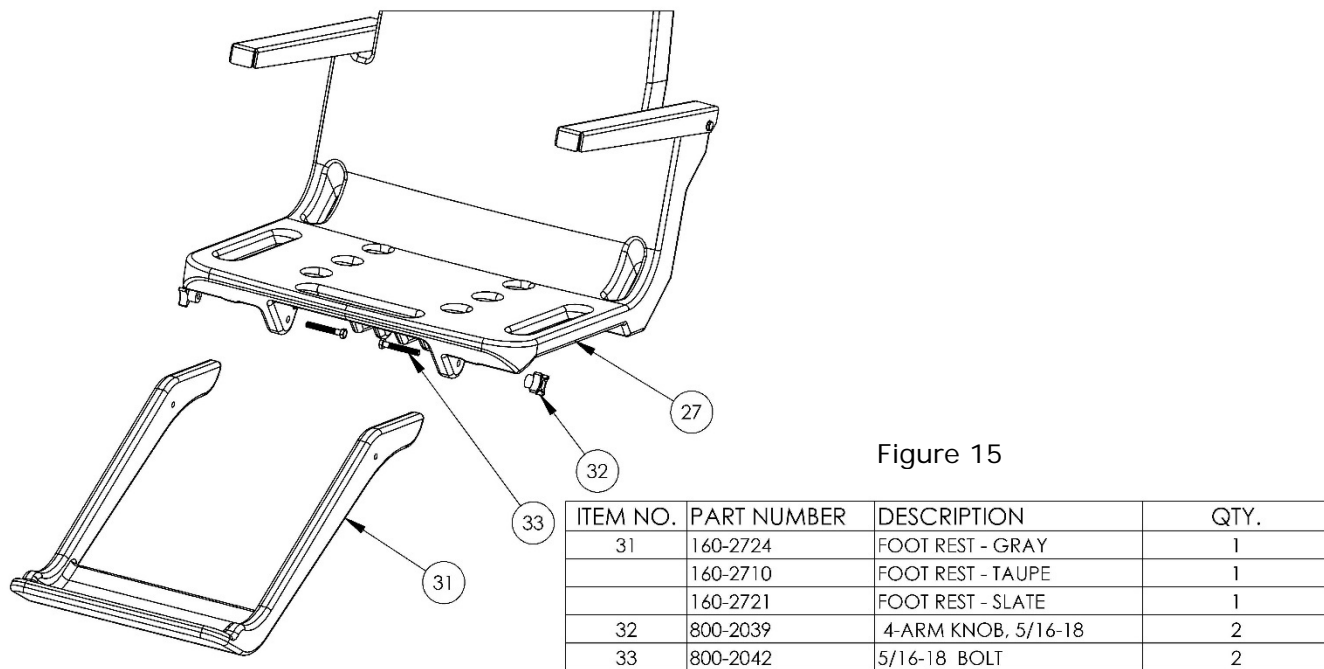

Figure 15
21. Attach the Footrest to the Seat using (2) bolts and (2) 4-arm knobs through holes on bottom of Seat and Footrest. See Figure 15.